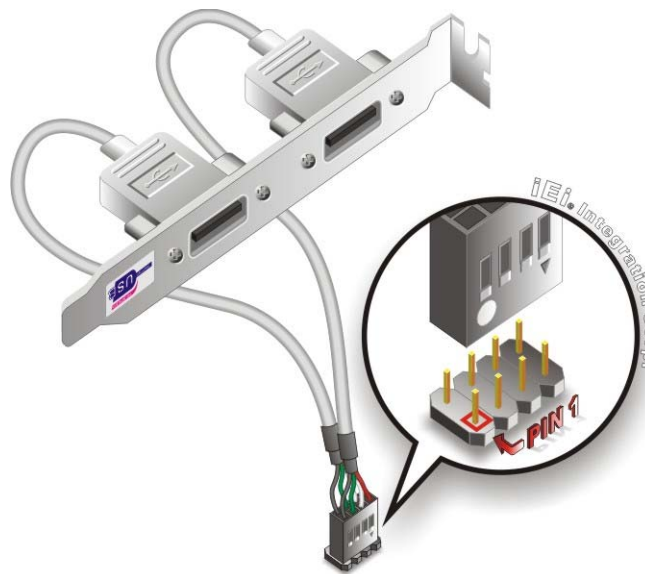

Figure 4-7: Dual USB Cable Connection
Step 3: Insert the cable connectors. Once the cable connectors are properly aligned with the USB connectors on the PCISA-945GSE, connect the cable connectors to the on-board connectors. See Figure 4-7.